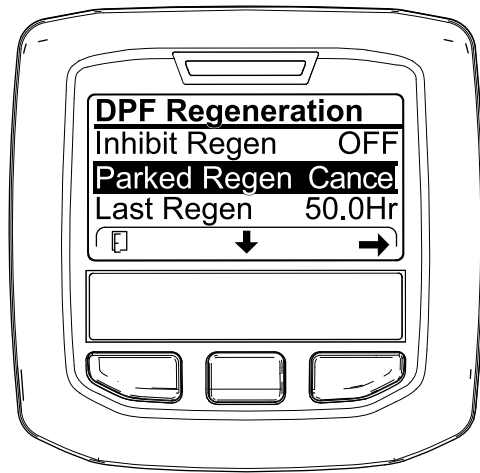
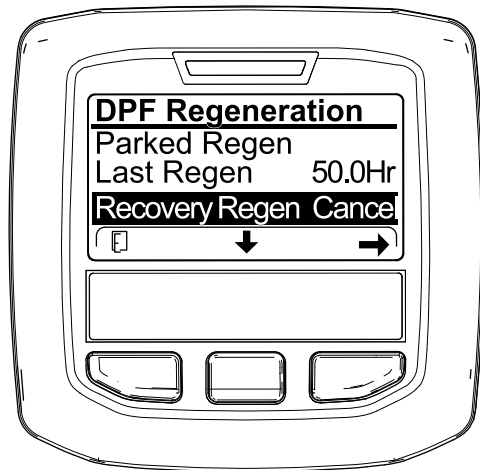

Figure 82
Figure 83
1. Access the DPF Regeneration menu (Figure 82).
2. Press the center button to scroll down to the PARKED REGEN CANCEL (Figure 82) or the RECOVERY REGEN CANCEL option (Figure 83).
3. Press the right button to select the Regen Cancel entry (Figure 82 or Figure 83).